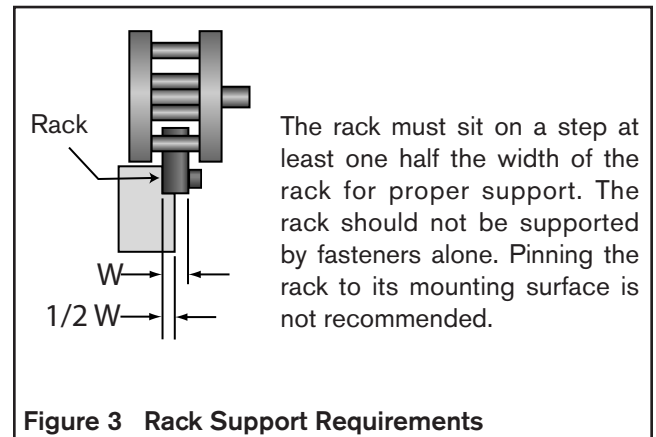

Figure 3 Rack Support Requirements
- The bottom of the rack and one side must be supported by a step in the machine bed at least half the rack thickness. The rack should not be supported only by fasteners or pins. See Figure 3 for specifications.
- The RPS system requires a mechanism to achieve proper system preload. It is recommended that the pinion be moved into the rack not vice versa. The recommended method is to mount the servo drive system on a sliding bracket that has an adjustment to push it into and pull it away from the rack. Another possible preloading method utilizes a bracket with eccentric mounting slot pattern. Nexen offers a preloading mechanism that is easy to integrate into your application as shown in Figure 18. Spring loaded preloading mechanisms shall not be used since the spring force required to counteract the separation forces are much higher than the allowed preloading force and would cause a reduction in pinion needle bearing life and increase system noise. See Figure 3 for more details.